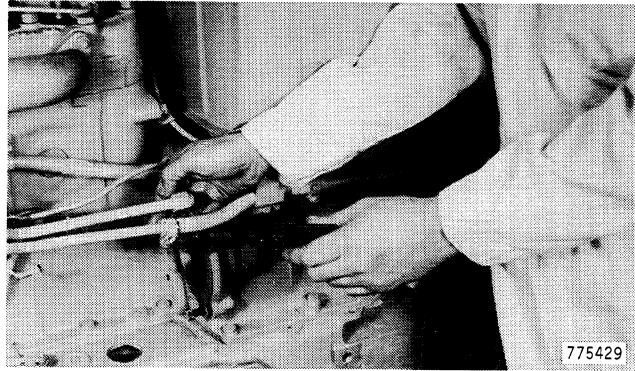

Figure 171
84. Install the hose and tube assembly to the tube from the steering pump, Figure 171.